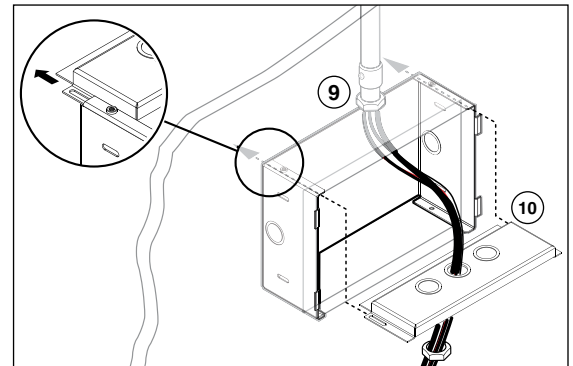

Figure 2.
9. Secure one or more conduits to the knock-out holes (see figure 2).
10. Slide the endplates into the gap between the back of the U-plate and the top flanges on the side of the U-plate (see the inset in figure 2). The endplate must pass the drywall so that the trailing edge can be pushed in behind it.